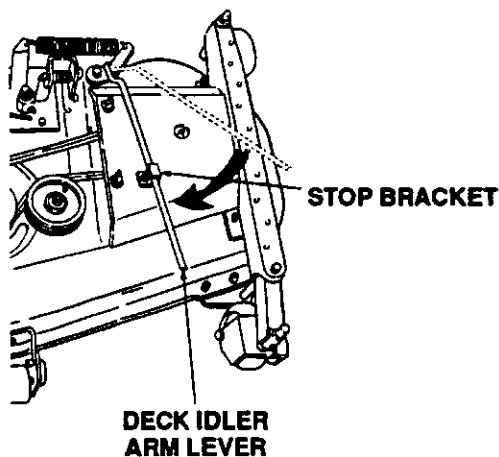

Figure 22
18. Engage deck idler arm lever into its stop bracket to provide tension on the PTO belt. (Refer to Figure 22.)